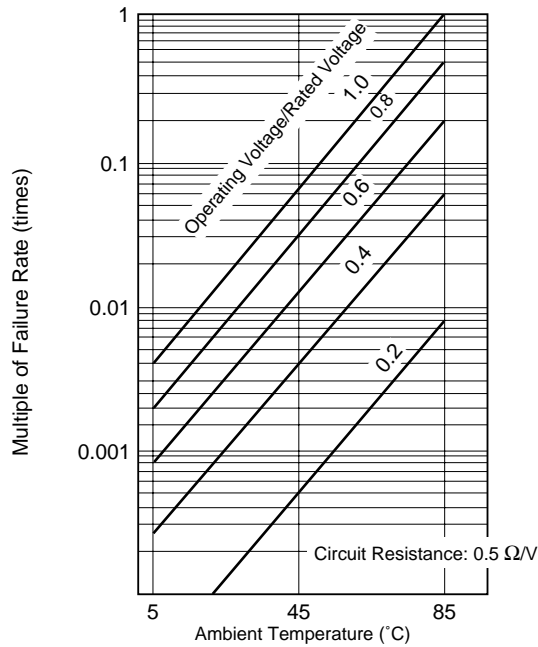
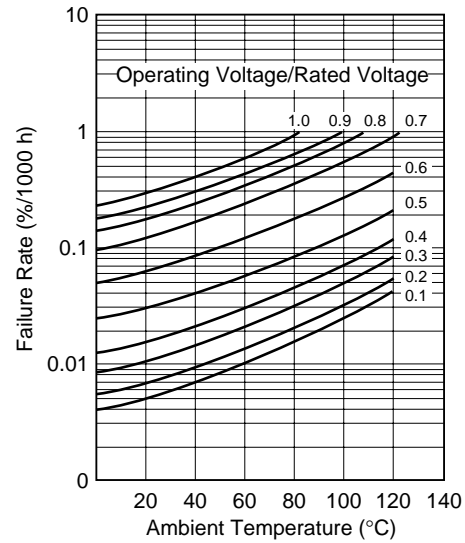

Figure 23 Relations Among Operating Temperature, Applied Voltage, and Failure Rate
Figure 24 Relations Among Ambient Temperature, Applied Voltage, and Failure Rate in the Case of MIL Standard
Figure 23 illustrates expression (18) above. In this figure, the vertical axis indicates the actual failure rate vis-a-vis the failure rate λ_0 when a test is conducted at $T_0 = 85^\circ\text{C}$ and $V_0 =$ rated voltage, and the horizontal axis indicates the actual ambient temperature. The parameters in each graph are (actual operating voltage)/(rated voltage), which is generally called a derating ratio.
For your reference Figure 24 shows data from MIL Handbook⁽⁶⁾. The failure rate is 1%/10³ h when measured at 85°C and rated voltage. Table 6 shows an example of the field failure rate of a solid tantalum capacitor actually used in a carrier transmission system.
When the failure rate at a ratio of operating voltage to rated voltage of 50% and at an ambient temperature of 40°C is estimated by using Figure 23, it is 0.005 times the failure rate measured at 85°C and rated voltage, which is close to the actual failure rate. However, when the graph of MIL Handbook (Fig. 24) is used, the failure rate is 0.04 times, which is 1 digit greater.